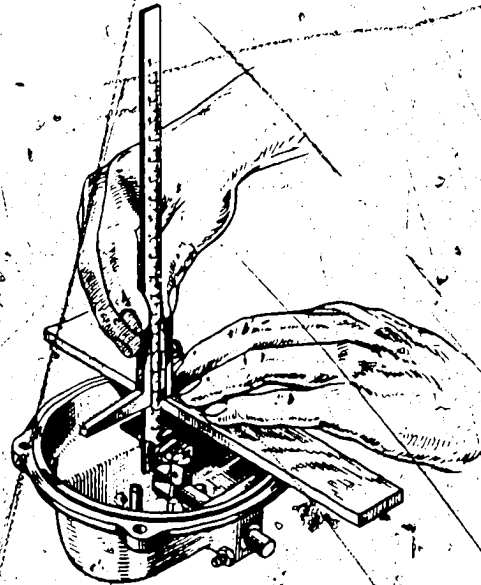

Fig. 13 Adjusting the distance from spigot support to centre of guide pin
6. Assembling the lever mechanism of the governor cover (17): Mount lever shaft (9) and steering lever (11), securing them well with pins. Insert key for control lever (16) in lever shaft. Mount control lever securing it with screw. Turn lever shaft (9) towards "full load", then insert curve templet (8) into guide pin of the steering lever (11). Turn lever shaft (9) back again while lifting curve templet (8) and fitting it to set pins; fix it with hexagon screw.
The following standard gauges are then adjusted between the housing-spigot supporting surface of the governor cover (17) and centre of guide pin of the steering lever in "full load" position (see Fig. 13):